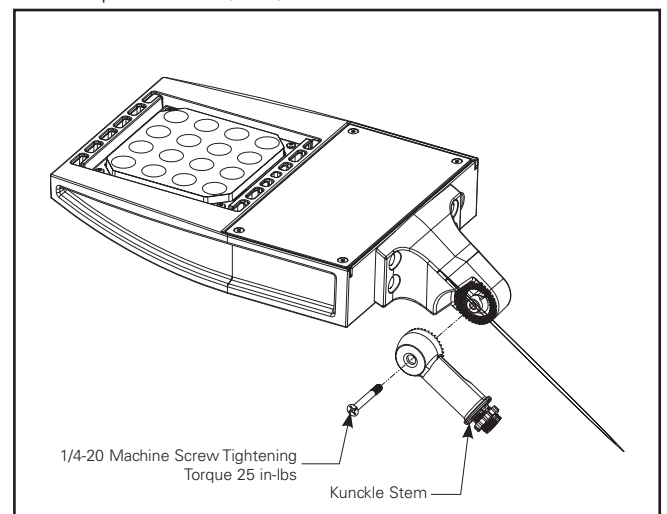

Figure 10.
1. Loosen (5) flat Phillips head screws (Figure 10) located on arm mounted on back of the luminaire and carefully set aside the cover plate and the screws.
5. Slide lock washer and flat washer onto the (2) 1/2-13 bolts and install the bolts from inside the pole side arm through the optional round pole adapter and into the holes of the pole into the nut plate (Figure 10).
6. Tighten (2) 1/2-13 bolts to 40 ft-lbs, while making sure pole side arm is level to the pole.